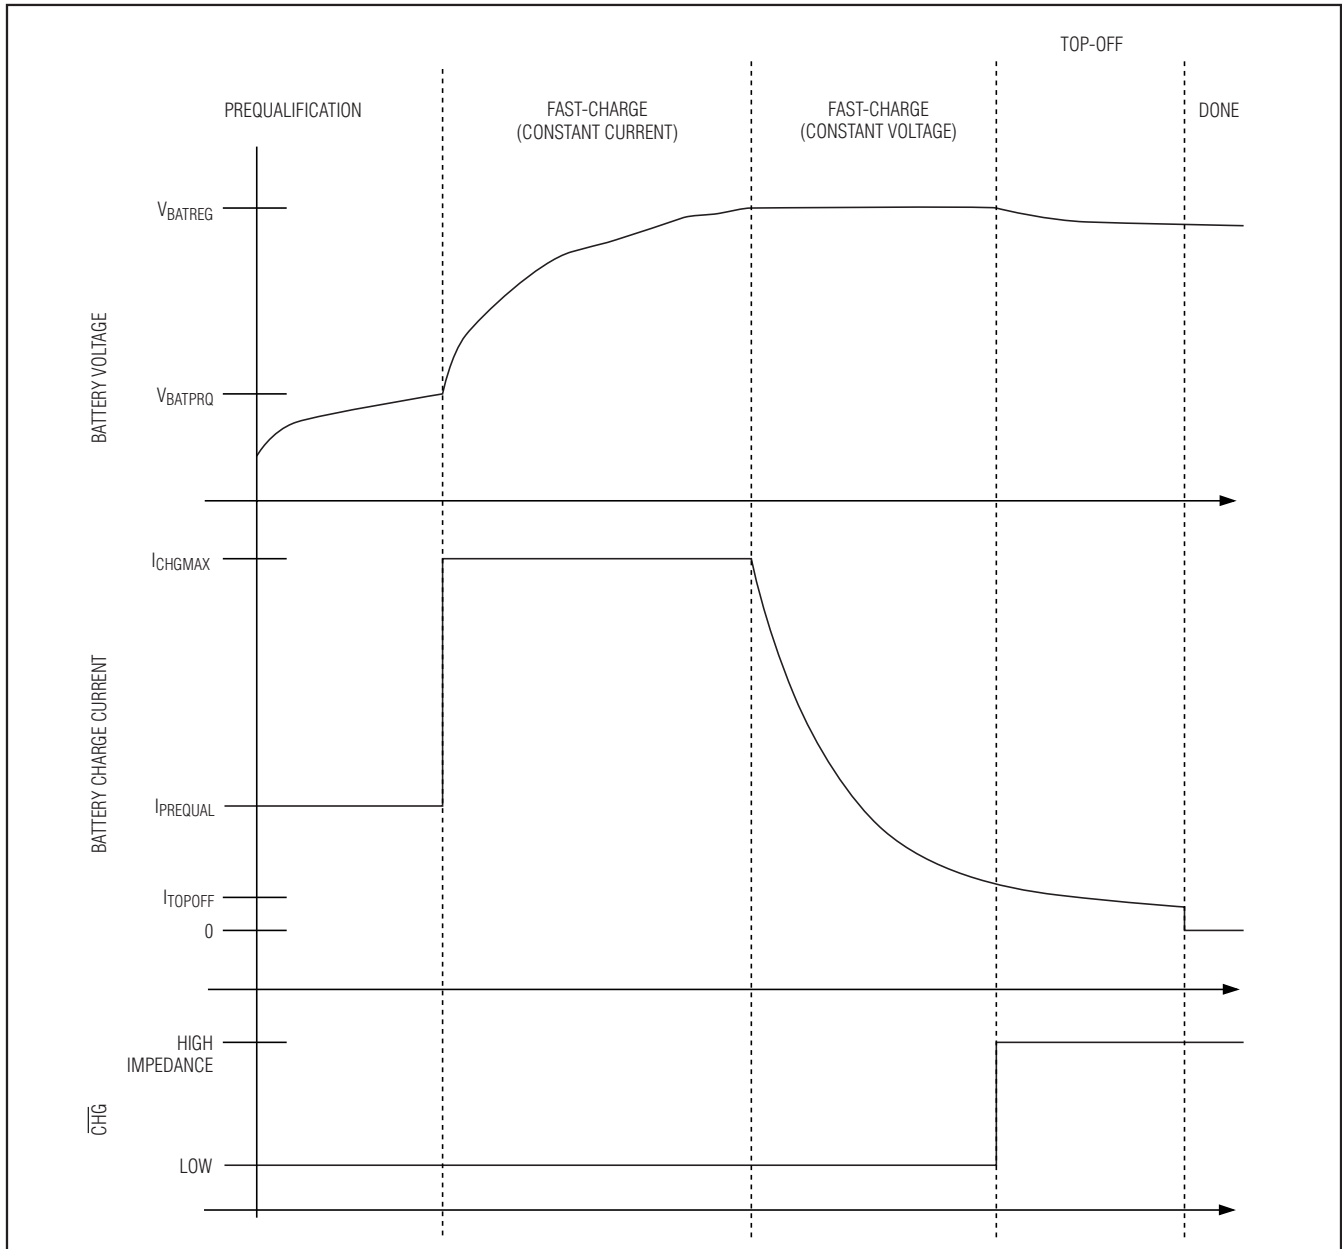
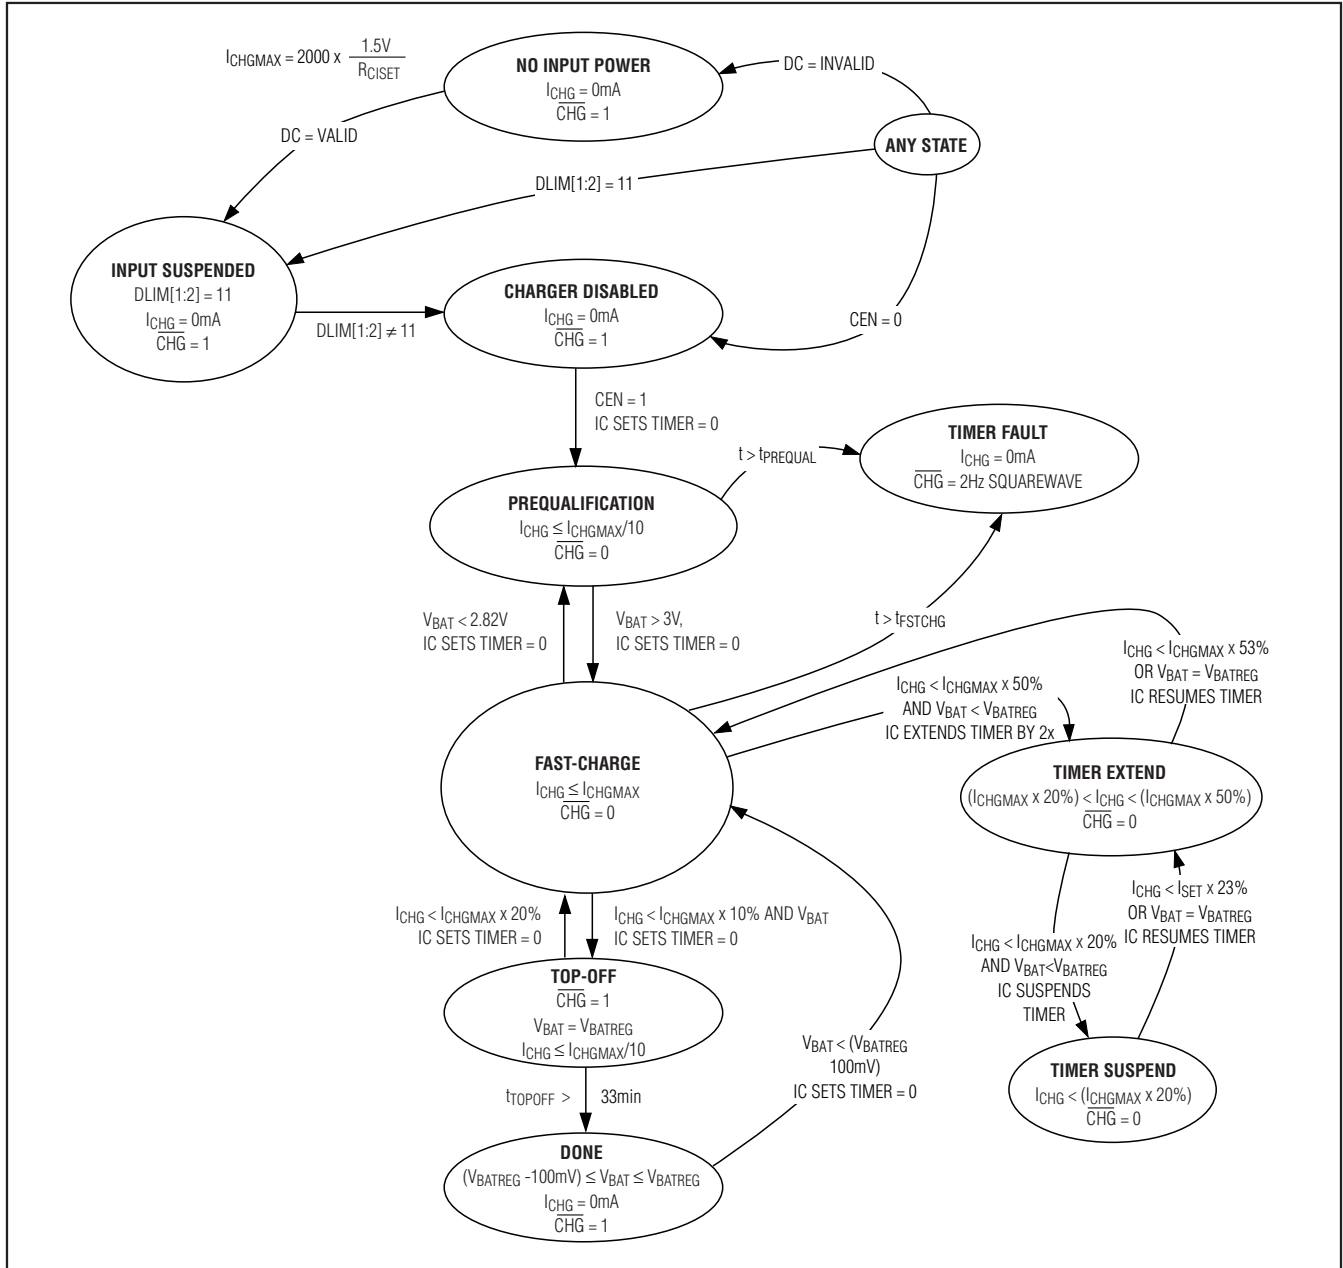

Figure 2. Li+/Li-Poly Charge Profile
Figure 3. Li+/Li-Poly Charger State Diagram
| 15 | $\overline{\text{CHG}}$ | Active-Low, Open-Drain Charge Status Output. $\overline{\text{CHG}}$ pulls low to indicate that the battery is charging. See Figure 3 for more information. |
Figure 2 shows the typical Li+/Li-Poly charge profile for the MAX8819_{...}, and Figure 3 shows the battery charger state diagram.
- The battery charger stops charging in done mode as shown in Figures 2 and 3.
\overline{CHG} is an open-drain, active-low output that indicates charger status. As shown in Figures 2 and 3, \overline{CHG} is low when the charger is in its prequalification or fast-charge states. When a timer count is exceeded in either state, \overline{CHG} indicates the fault by blinking at a 2Hz rate and remains in that state until the charger is reset by CEN going low, removal of DC or setting $DLIM[1:2] = 11$.
As shown in Figure 3, a fault timer prevents the battery from charging indefinitely. In prequalification mode, the charge time is internally fixed to 33min.
While in the constant-current fast-charge mode (Figure 2), if the MAX8819_ reduces the battery charge current due to its internal die temperature or large system loads, it slows down the charge timer. This feature eliminates
nuisance charge timer faults. When the battery charge current is between 100% and 50% of its programmed fast-charge level, the fast-charge timer runs at full speed. When the battery charge current is between 50% and 20% programmed fast-charge level, the fast-charge timer is slowed by 2x. Similarly, when the battery charge current is below 20% of the programmed fast-charge level, the fast-charge timer is paused. The fast-charge timer is not slowed or paused when the charger is in the constant voltage portion of its fast-charge mode (Figure 2) where the charge current reduces normally.